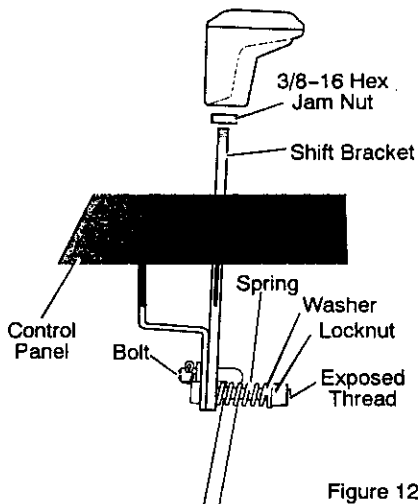

Figure 12
2. Remove locknut, washer, spring, and the bolt. See Figure 12.
4. Reinstall bolt, spring, washer and locknut See Figure 12.
6. Thread the 3/8-16" hex jam nut onto the lever until the nut reaches the end of the thread. See Figure 12.